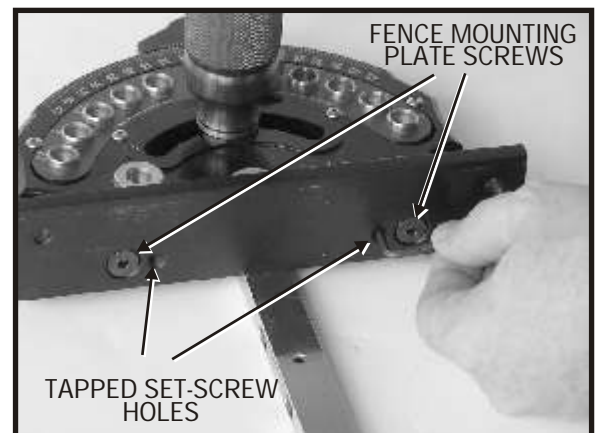

FIG. 3
1. There are two tapped holes on the fence mounting plate (Fig. 3) that will accept set-screws that can be used to adjust the fence face forward on either the left or right end of the fence. Before adjusting the miter gauge for square, determine which end of the fence (left or right) needs to move in a forward direction to become square to the saw blade and make note of approximately how much of an adjustment will be necessary.
3. The fence mounting plate is attached to the gauge body with (2) flat head cap screws (or socket head cap screws). Using the 5/32" allen wrench loosen each of the two mounting screws to allow a slight amount of play in the fence mounting plate.